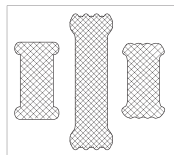

Fig. 2c
- Different kinds of stents are available for different situations. (Refer to Fig. 2c)